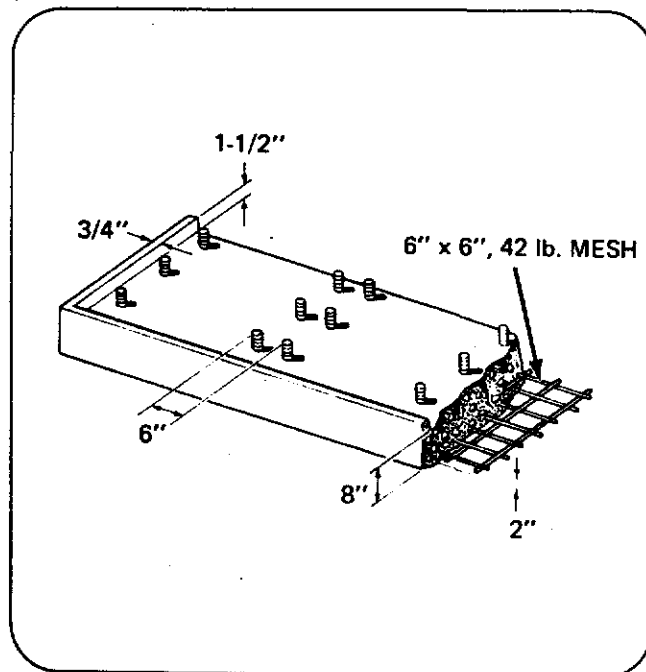

Figure 4
- f. Build a form around tie-bolts for slab, making provisions for 1-1/2 inch lip 3/4 inch wide, along the front and sides of the slab. See *Figure 4*.
- g. Place a 6 inch by 6 inch, 42 lb. road mesh into the form, supporting it approximately 2 inches from floor. See *Figure 4*.
- m. If more than one washer is being installed, mounting bolts for adjacent washers should be at least 6 inches apart. See Figure 4.